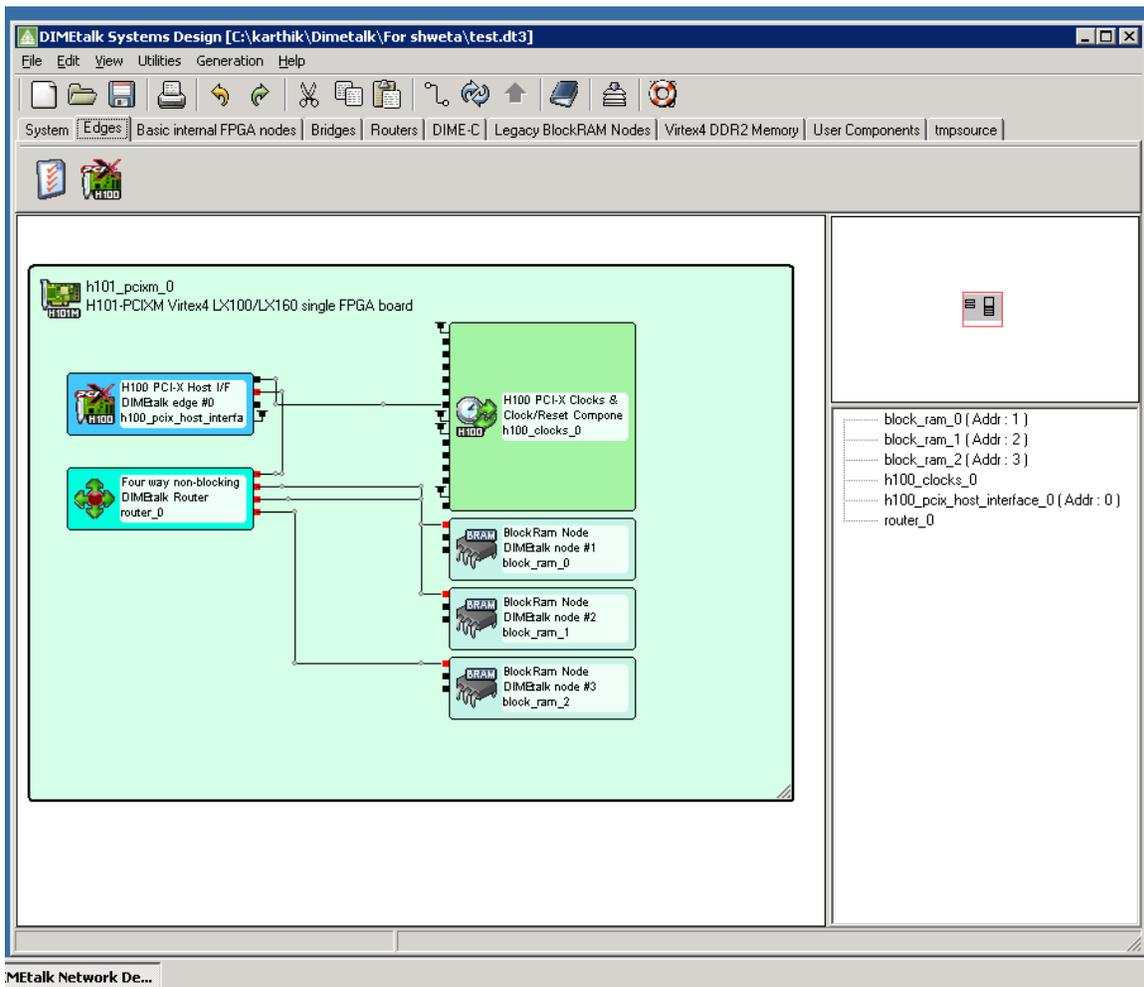

Fig. 3 Sample DIMETalk design for reading/writing to BRAMs
- e. Once the design has been created (refer Fig.3 for a sample design – This design basically lets one write and read from a BRAM), save the design and click on the Generate network code button. DIMETalk has scripts within that call ISE and synthesizes, does P and R, applies constraints and gives you the final “bit file”. This is the only thing that would be required for later use. The bit stream would be located under source→h101_pcix_m folder